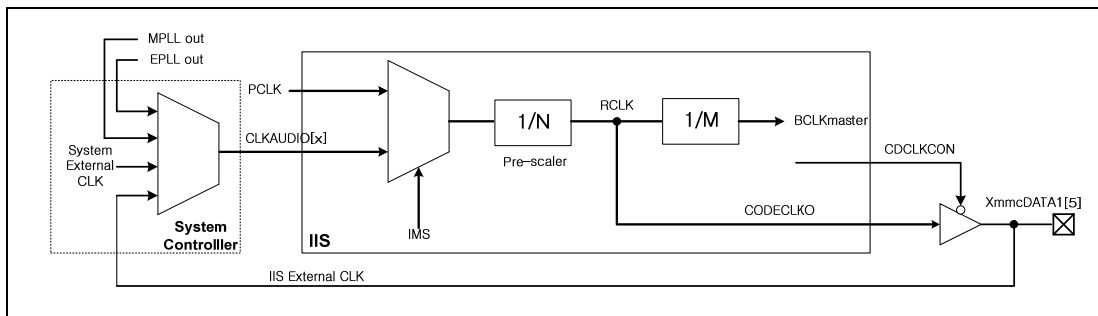

Figure 41-2. IIS Clock Control Block Diagram
Figure 41-2 shows the route of the I2SCDCLK with internal master or external master mode setting in IIS clock control block and system controller. Note that RCLK indicates root clock and this clock can be supplied to external IIS codec chip at internal master mode.
2. You must select a clock source. S3C6410 has five clock sources. Those are MPLL, EPLL, PCLK, system external clock and IIS external clock. For more information please refer to Figure 41-2.